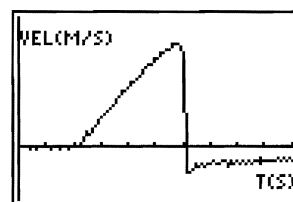

Figure 3:
- 7 Start the PLOTS program. Press 1 at the PLOT OPTIONS menu to see a graph of velocity versus time for the accelerating cart. The velocity versus time plot that appears on the calculator screen should look similar to the one displayed in Figure 3, showing a speed that increases at a constant rate. Velocity (in meters/second) is stored in L5 and time (in seconds) is stored in L2.